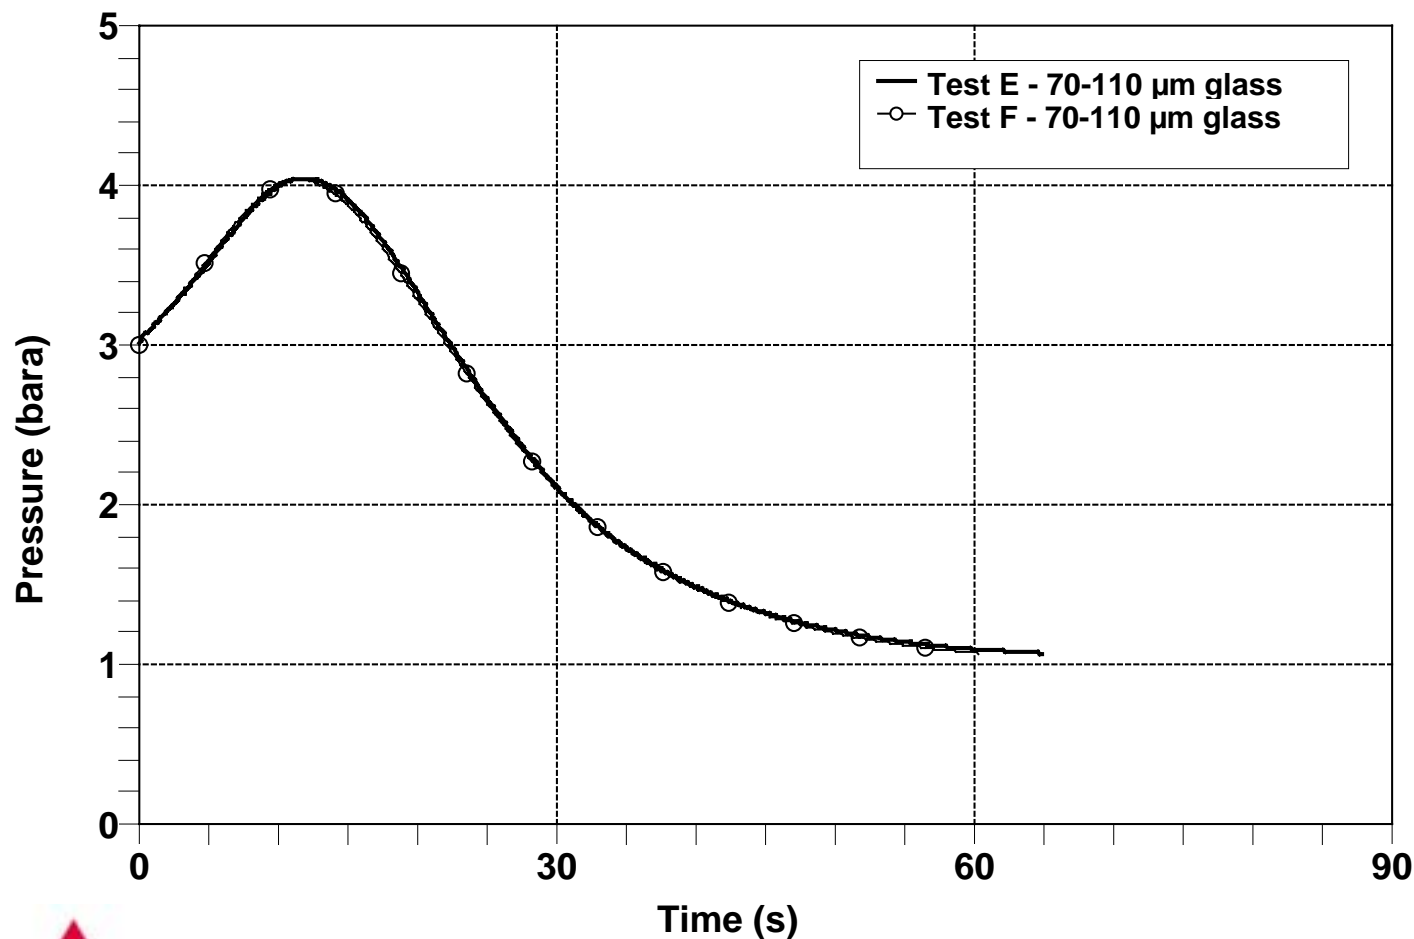

**Figure 8. Self heat rate against temperature, from PHI-TEC test (phi=1.05)**
**Figure 8. Pressure profile for venting of reacting system tests at centrepoint 10 litre scale, 6210 ml charge (5750 ml reactants + 8 % by volume glass), water and acetic anhydride (mole ratio 1.5) 9 mm nozzle, 200 rpm stirring**